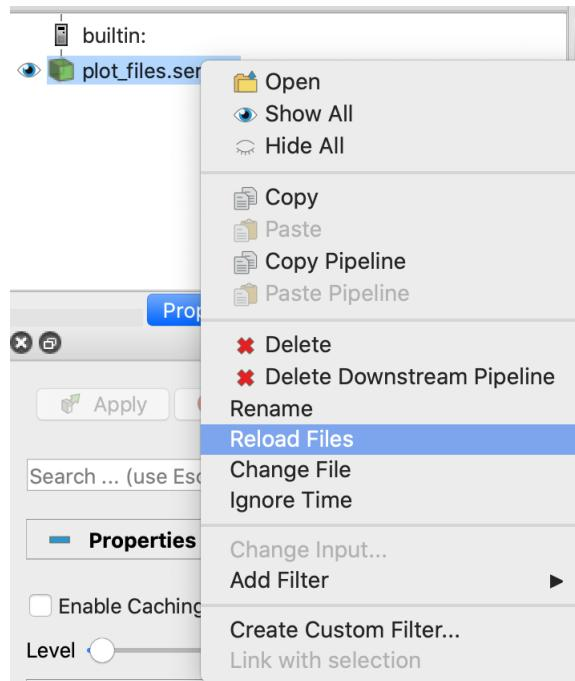
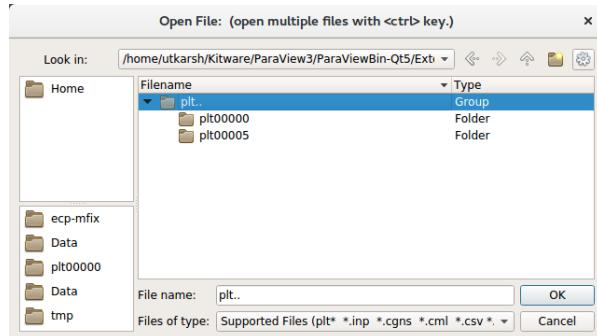

Fig. 18.2: File dialog in ParaView showing how to reload a series file
Fig. 18.3: : File dialog in ParaView showing a group of plotfile directories selected
2. Navigate to your run directory, and select the fluid or particle plotfile. Note that you can either open single/multiple plotfile(s) at once by selecting them one by one or select an ensemble of file, labelled as `plt..` and indicated as a Group in the “Type” column of the file explorer (see Fig. 18.3). In the later case, Paraview will load the plotfiles as a time series. ParaView will ask you about the file type – choose “AMReX/BoxLib Grid
Open ParaView, and then select “File” → “Open”. In the “Files of Type” dropdown menu (see Fig. 18.3) choose the option `All Files (*)`. Then choose `plot_files.series` and click “OK”. Now the plotfiles have been loaded as a Group as in Step 2 of section *ParaView*. Now, you can follow the steps 2 to 7 in the section *ParaView* to plot. As new plotfiles are generated, just re-run the bash script to re-generate the `plot_files.series` file, right-click on `plot_files.series` in the ParaView menu, and click on “Reload Files” (see Fig. 18.2).
1. Run ParaView v5.7, and select then “File” → “Open”. You will see a combined “plt..” group. Click on “+” to expand the group, if you want inspect the files in the group. You can select an individual plotfile directory or select a group of directories to read them a time series, as shown in Fig. 18.3, and click OK. ParaView will ask you about the file type – choose “AMReX/BoxLib Particles Reader”.